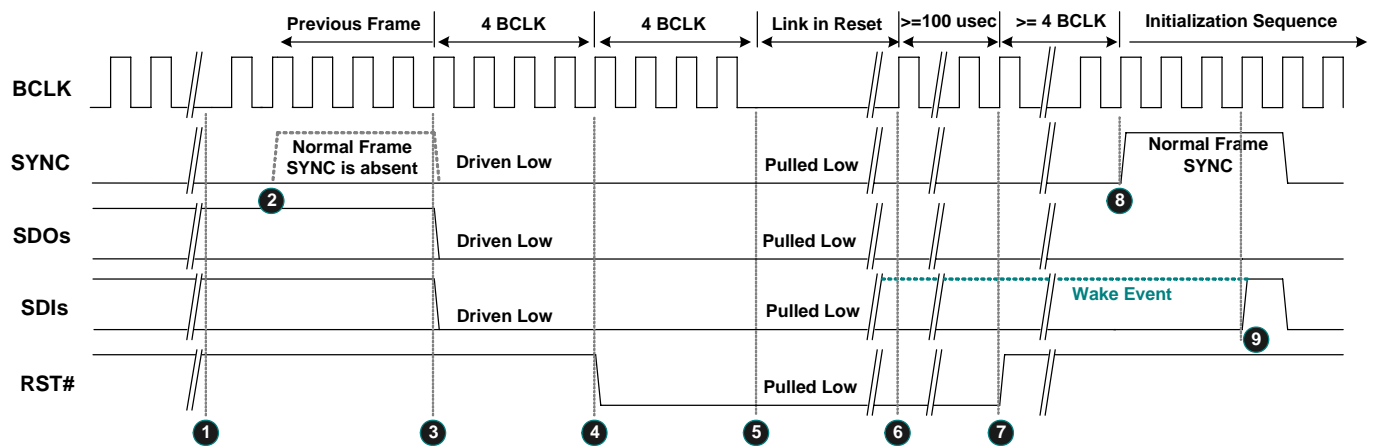

Figure 11. Link Reset Timing
3. Software initiates power management sequences. Figure 11, page 20, shows the 'Link Reset' timing including the 'Enter' sequence (❶~❺) and 'Exit' sequence (❻~❾)